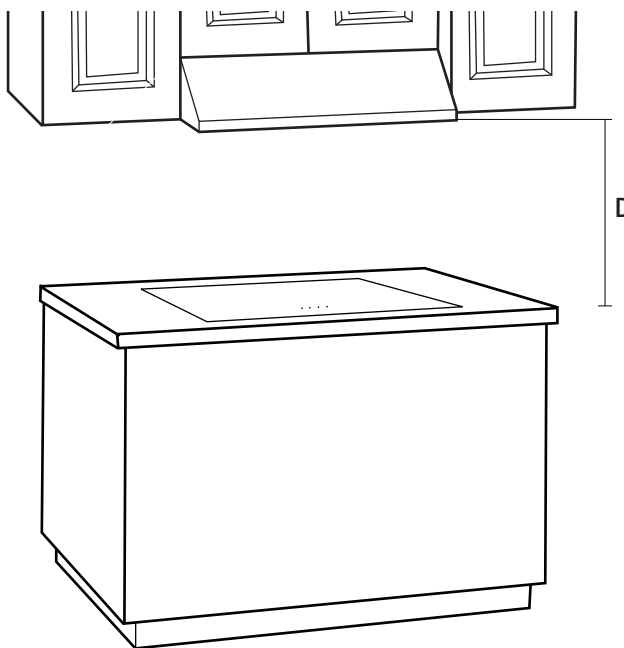

Fig. 1
4. If you choose to hang the range hood as below (Fig. 1) distance (D) from the cooktop surface, use extra caution as the surface of range hood may be extremely hot to the touch.
For QR015 (D in Fig. 1) is 711 mm - 813 mm (28 in. - 32 in.).
For QR060, (D in Fig. 1) is 458 mm - 813 mm (18 in. - 32 in.).